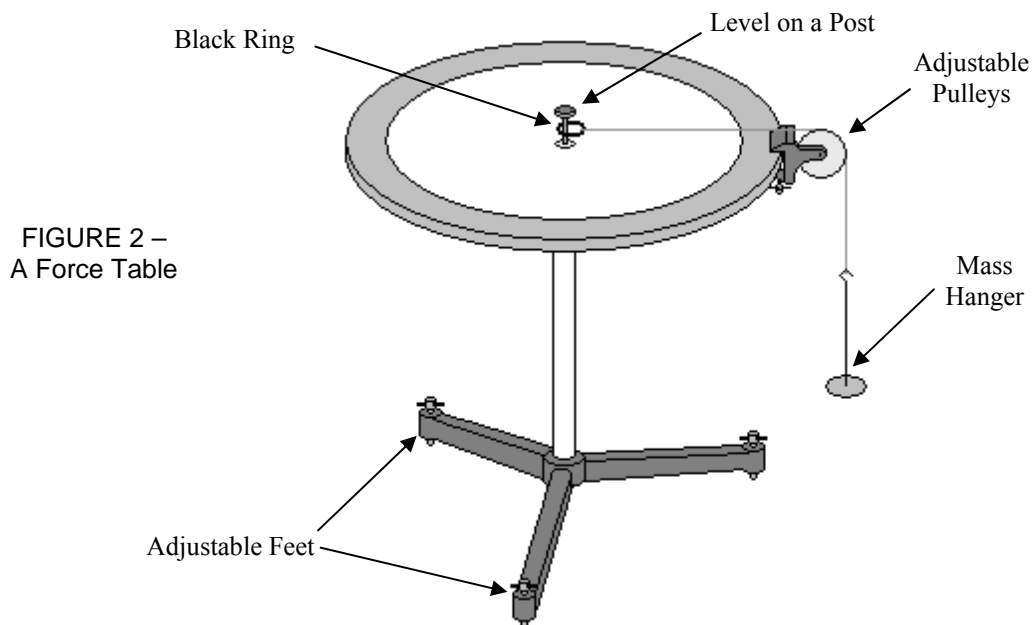

FIGURE 2 –
More Equipment The other piece of equipment is called a *force table* and it is used to examine the idea of equilibrium. (See **Figure 2 on the next page**.) Each of the strings that are attached to the black ring on the table will represent a *tension* that is pulling on the ring. The ring is encircling a post. When the ring is exactly centered on the post then the system is in equilibrium.
look directly down on the force table you will see it. When the bubble is centered on the black circle the table is level. You can level the table by adjusting the height of the feet at the base of the table. See **Figure 2**.
C) Take one of the strings that is attached to the black ring and place it over the pulley. Hang a mass hanger from this string. See **Figure 2**.